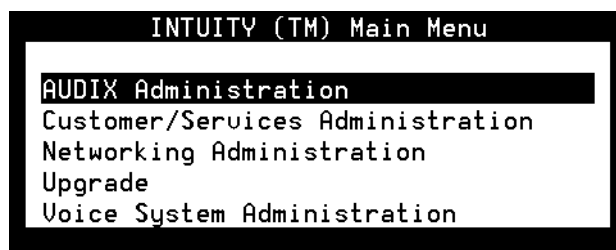

Figure 11-1. Lucent INTUITY Main Menu
2. Start at the Lucent INTUITY Main menu (Figure 11-1).
1. Starting at the Lucent INTUITY Main menu (Figure 11-1) select